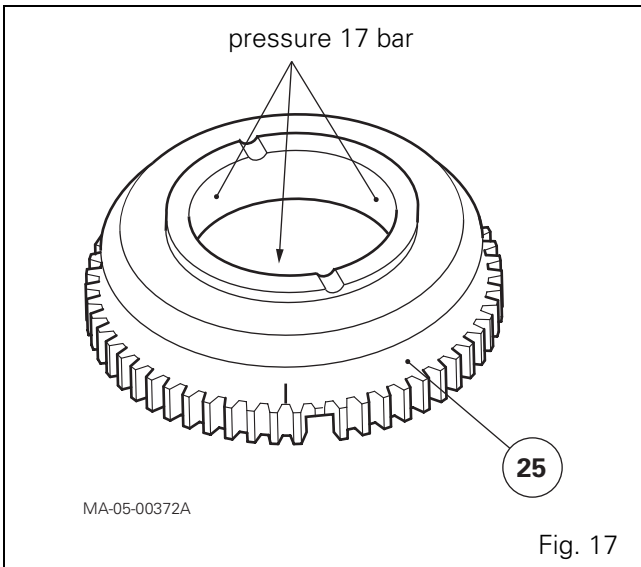

Fig. 17
42. Make sure that the three holes of the 17-bar channel on the hydraulic cover plate (25) are not blocked (Fig. 17).
43. Fit the lubricated seals (26) and (29) and onto the piston (28).